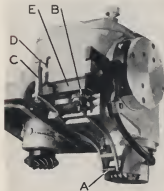

Fig. 9—Low slugger head.
The operation of the low-slagger cutter is governed by the movement of the small feeler roller under which the slug passes just before encountering the cutter. The low-slagger trip frame in which this roller is mounted transmits the motion to the plunger of the switch (E, Fig. 9) through the adjusting screw (B). When the roller is lifted by passage of type characters, a contact is made by the switch, energizing the magnet enclosed in the side cover of the low-slagger housing. This attracts the armature to the pole pieces, causing the roller on the armature to lift the link actuator arm which, through its linkage, lifts the pawl from the ratchet, allowing the cutter to rise out of cutting position. When the roller drops off the type, the circuit is broken by the switch, the actuator arm drops down, allowing the pawl to engage the ratchet and the cutter is drawn downward into cutting position. Since the roller is mounted ahead of the cutter, it drops off the type face before the cutter is clear of the type, hence a delay in timing of the descent of the cutter is necessary to avoid bleeding. This delay is provided by allowing the ratchet to over-run the point required actually to clear the type.
Fig. 9, which is supported in a steel frame suspended from the low slugger housing. Since the maximum difference of height between type and blank slug is only .043 inch, it is necessary that the throw of this roller be accurately adjusted. This adjustment is made by turning the knurled-head screw (B) Fig. 9 until the action of the low slugger cutter is cor-
The counterbalance spring (C) Fig. 9 should be adjusted to the lightest tension which will overcome the tension of the switch spring and still give positive action of the low slugger roller. This adjustment is made by turning screw (D) Fig. 9.